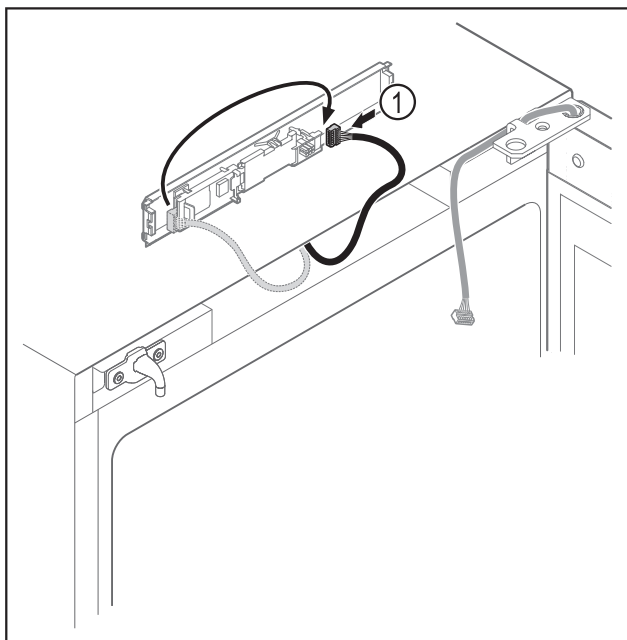

Fig. 39
- Connect the plug Fig. 39 (1) to the circuit board.